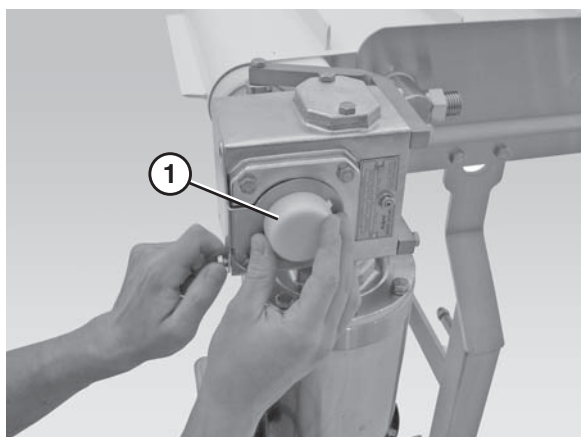

Figure 56
1. Remove the drive spindle cover (**Figure 56, item 1**).